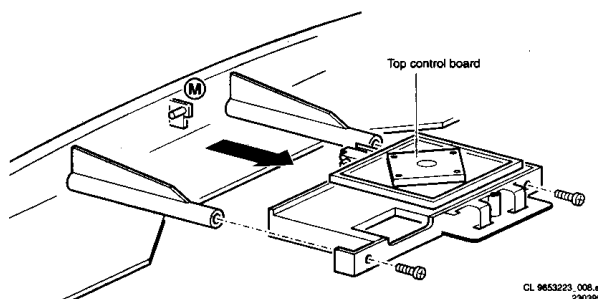

Figure 4-14
1. Remove the 2 screws (see figure 4-14)